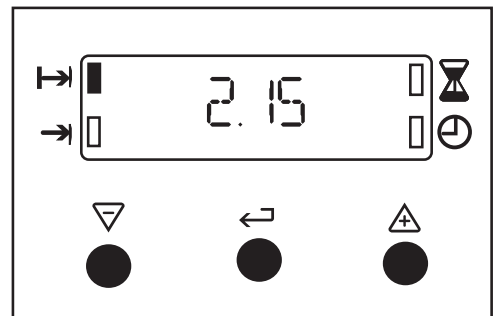

Fig.7.
- iv) To set the length of cooking time. Press the Selector Control button until the 'Cook Time' indicator neon is illuminated. Press the increase control (+) until the required length of cooking time is displayed, e.g. 2 hrs 15 mins as Fig. 7. If necessary depress the decrease control (-) until the correct time interval is achieved.